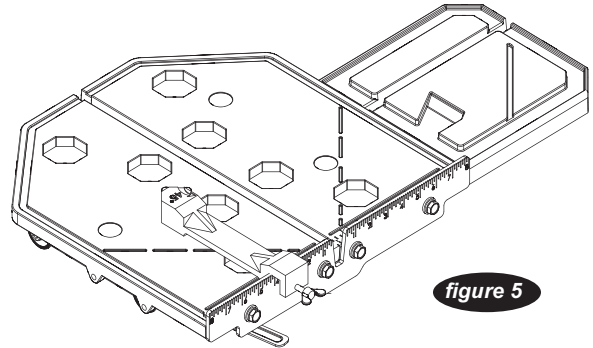

figure 5
- The ruler guide has inches marked along the front to allow convenient measurements and precision cuts. (see figure 5)